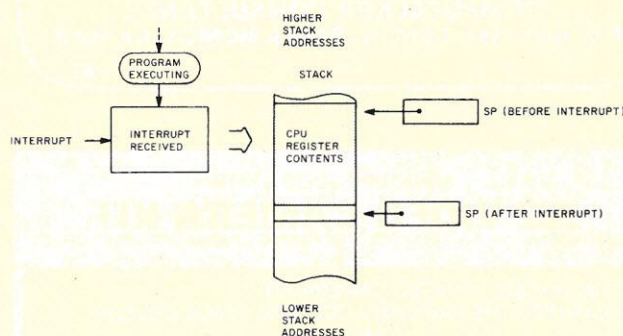

Fig. 1. Normal 6800 response to an interrupt.
and the popular BASICs for the SWTPC 6800. The SWTPC BASIC and co-resident editor/assembler use the stack pointer as a pseudo index register. This is functional but catastrophic in the event of an external interrupt from such sources as a peripheral service request or from a real-time interval timer. The problem centers on the CPU stack's really ceasing to exist since the stack pointer (SP) is loaded with the address of the table or command string to be parsed. When an interrupt would occur, the microprocessor unit (MPU) wants to push the register contents onto the stack (which it does), but the stack actually points somewhere in the user program. Fig. 1 depicts the MPU responding to an interrupt with a normal stack configuration.